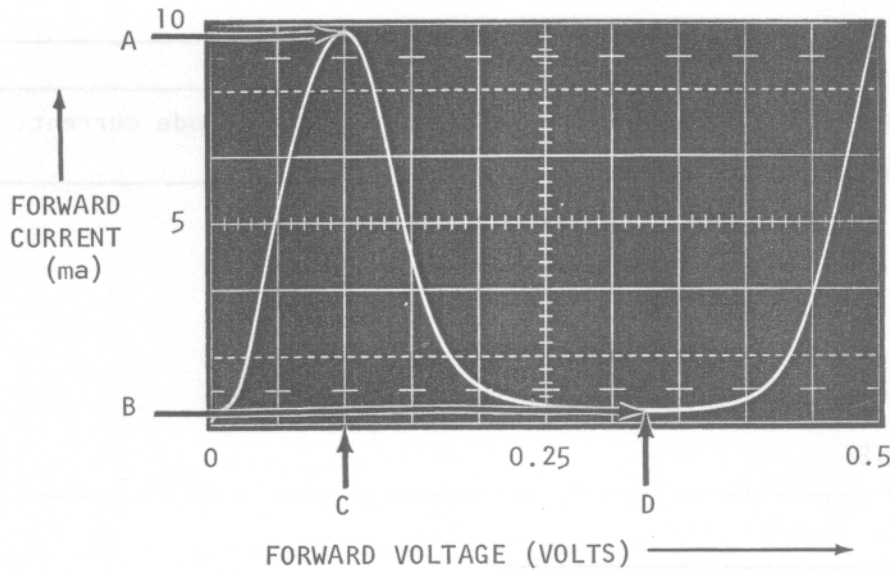

FIGURE 28
28 Point A in figure 28 is termed _____, and its magnitude is determined by junction _____. Point B is termed _____, and its magnitude is a measure of the _____ of the tunnel diode. Point C is termed _____, and Point D is termed _____. Both of their magnitudes are determined by the type of _____ used. The portion of the tunnel diodes EI curve between C and D represents a _____ resistance or conductance.
28.1 Point A in figure 28 is the point at which the bands start to uncross. Tunnel current is at its peak and the magnitude at this point is termed _____ current.